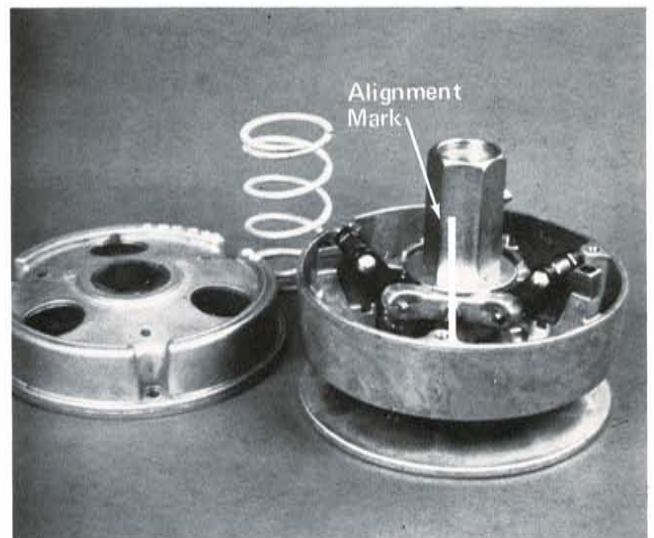

Fig. 3
6. Draw a line on spider roller arm assembly and hex shaft on stationary sheave. This is for alignment purposes during reassembly (Fig. 3).
4. Slide the spider roller arm assembly onto the hex shaft of the stationary sheave. Insure that the marks previously drawn on spider roller arm assembly and the hex shaft align themselves (Fig. 3).